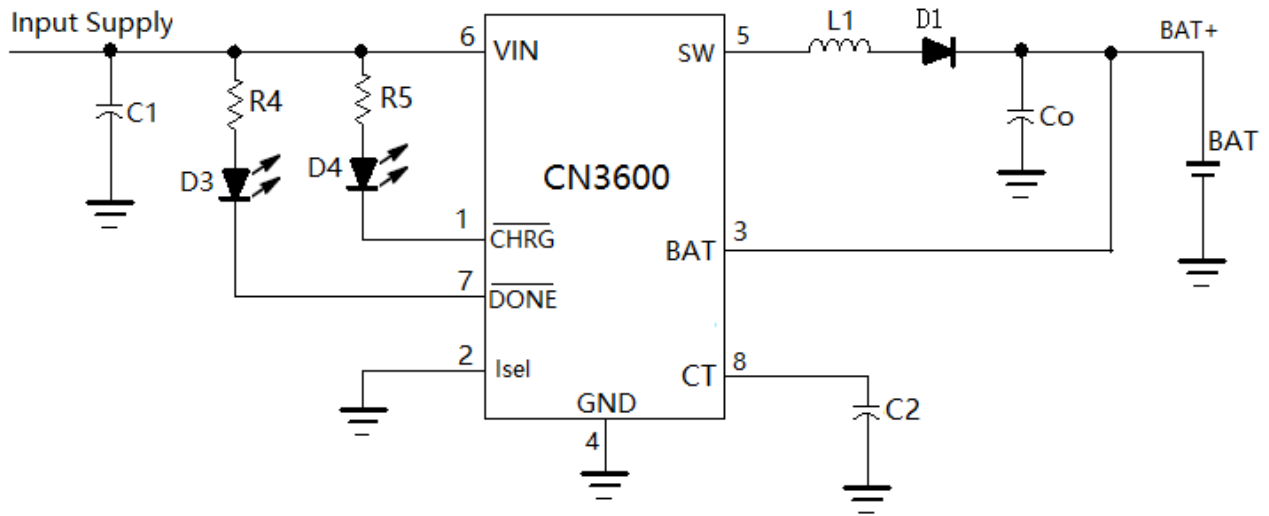

Figure 1 Typical Application Circuit
If the voltage at BAT pin rises above 1.36V(93.3% of BAT highest voltage), the constant current charge mode is stopped, and the CN3600 goes into the maintenance charge mode. The upper threshold of inductor current in maintenance mode is reduced as shown in Table 1. An internal timer is started once the CN3600 is in the maintenance charge mode, this puts a time limit on the maintenance charge mode, the time limit is programmed by a capacitor at the CT pin as shown in Figure 1. After the time out occurs or the battery voltage rises to its highest value, the whole charge cycle is terminated, the CN3600 enters into termination mode.
- C2 is the capacitance of C2 in Figure 1, the unit is Farad, C2 should be greater than 1nF, otherwise the timer's accuracy may be affected. If multi-layer ceramic capacitor is used as the timing capacitor, it is better to use 1uF or 2.2uF capacitor whose package size is 0805 or 1206.